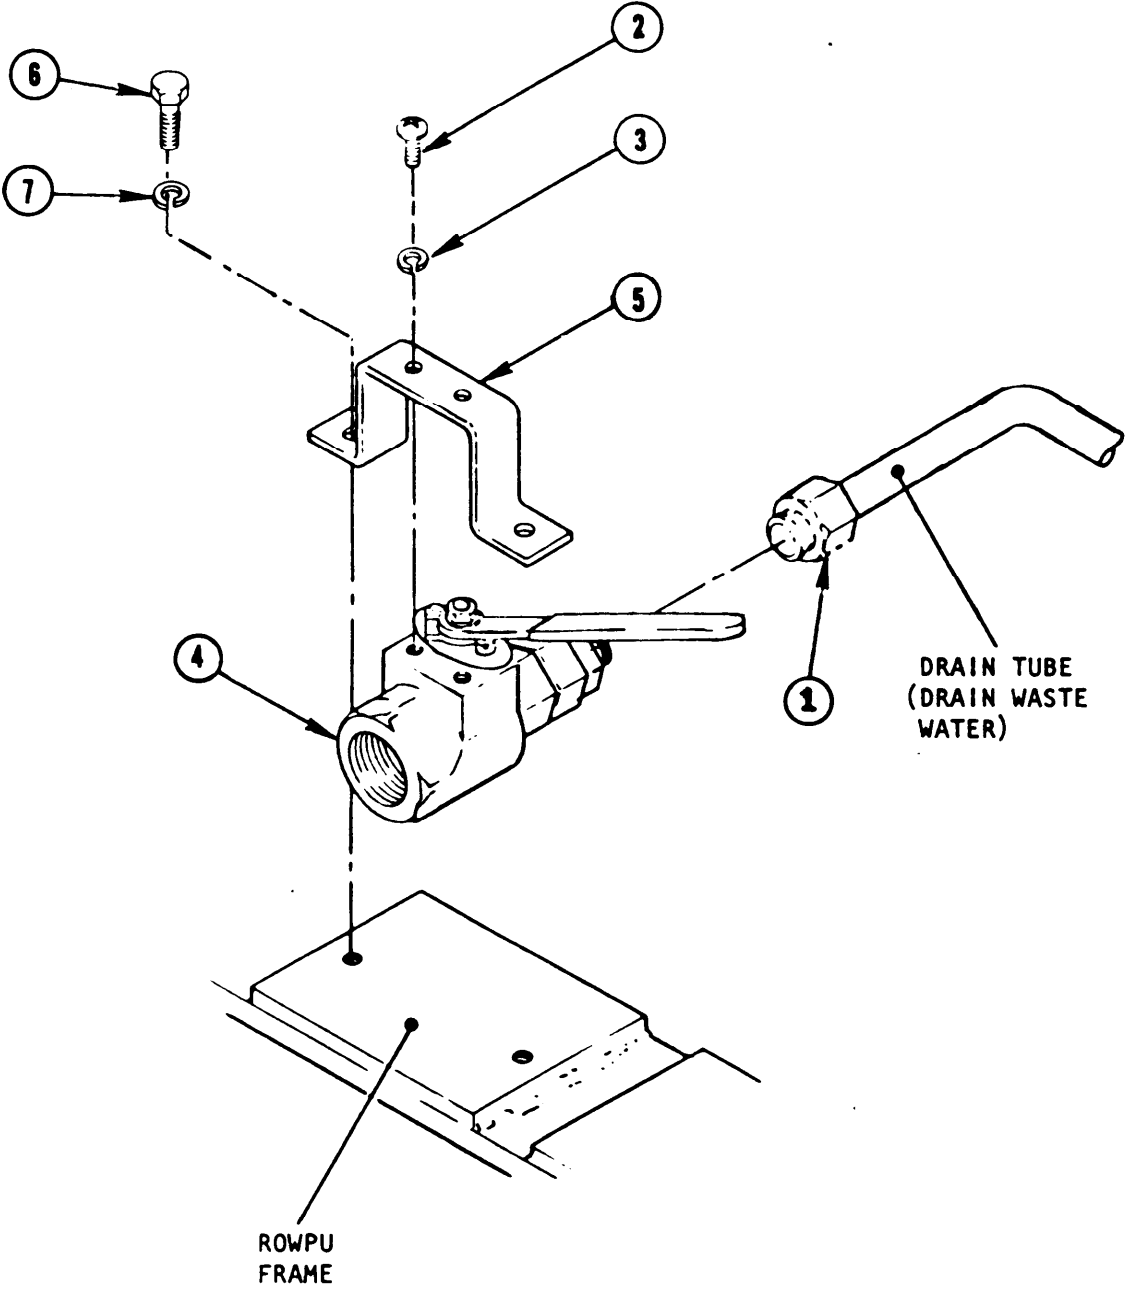

Figure 2-96. Drain Valve (ARMY)
- b. Removal. (Figures 2-96 (ARMY) and 2-97 (USMC))
f. Installation. (Figure 2-96 and 2-97)
- (1) (ARMY) (Figure 2-96) Install retaining strap (5) and valve (4) to the frame using two lockwashers (7) and two screws (6).
- (2) (ARMY) (Figure 2-96) Secure valve (4) to retaining strap (5) using two lockwashers (7) and two screws (6).